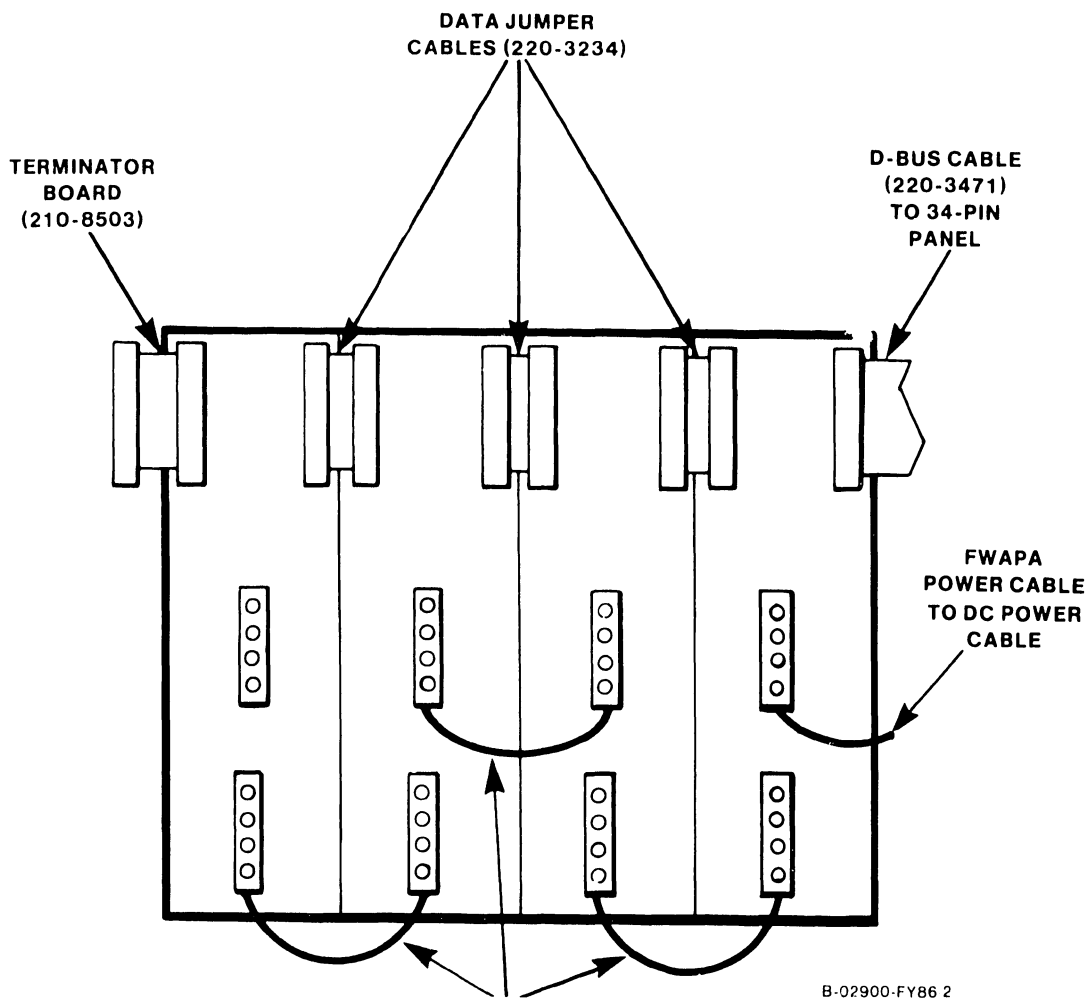

Figure 7-26. FiberWay Active Port Assembly Removal
2. Disconnect the power jumper cables and/or the FWAPA power cable from the FiberWay active port assembly (FWAPA) to be removed. See figure 7-26.